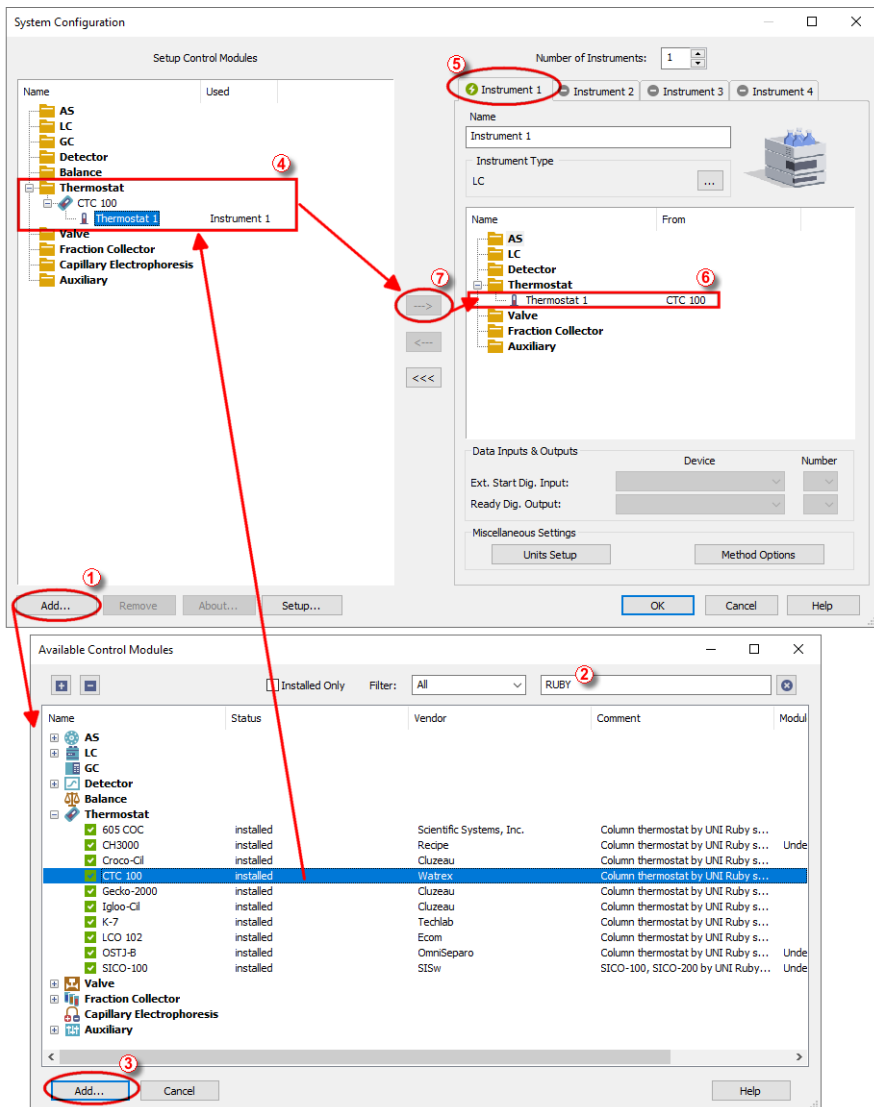

Fig 2: How to Add Watrex CTC 100
- Press the **Add** button (① on **Fig 2** on pg 4.) to invoke the **Available Control Modules** dialog.
- You can specify the search filter (②) to simplify the finding of the driver.
- Select the correct item and press the **Add** (③ on **Fig 2** on pg 4.) button. Each device with already created UNI profile should have its own item named accordingly in the **Available Control Modules** dialog.